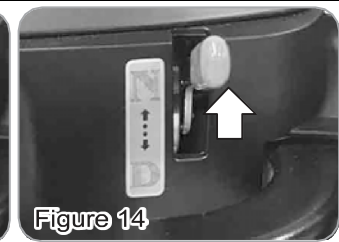

Figure 14
- When lever is Neutral (N) position, the scooter can be moved manually without power (Figure 14).